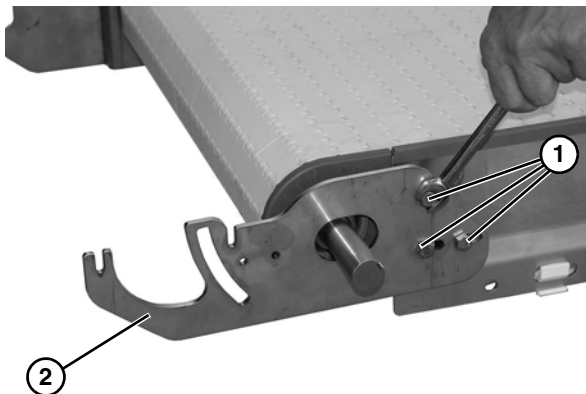

Figure 8
5. Tighten all three bolts (**Figure 8, item 1**) securing transfer plate (**Figure 8, item 2**) to conveyor frame.